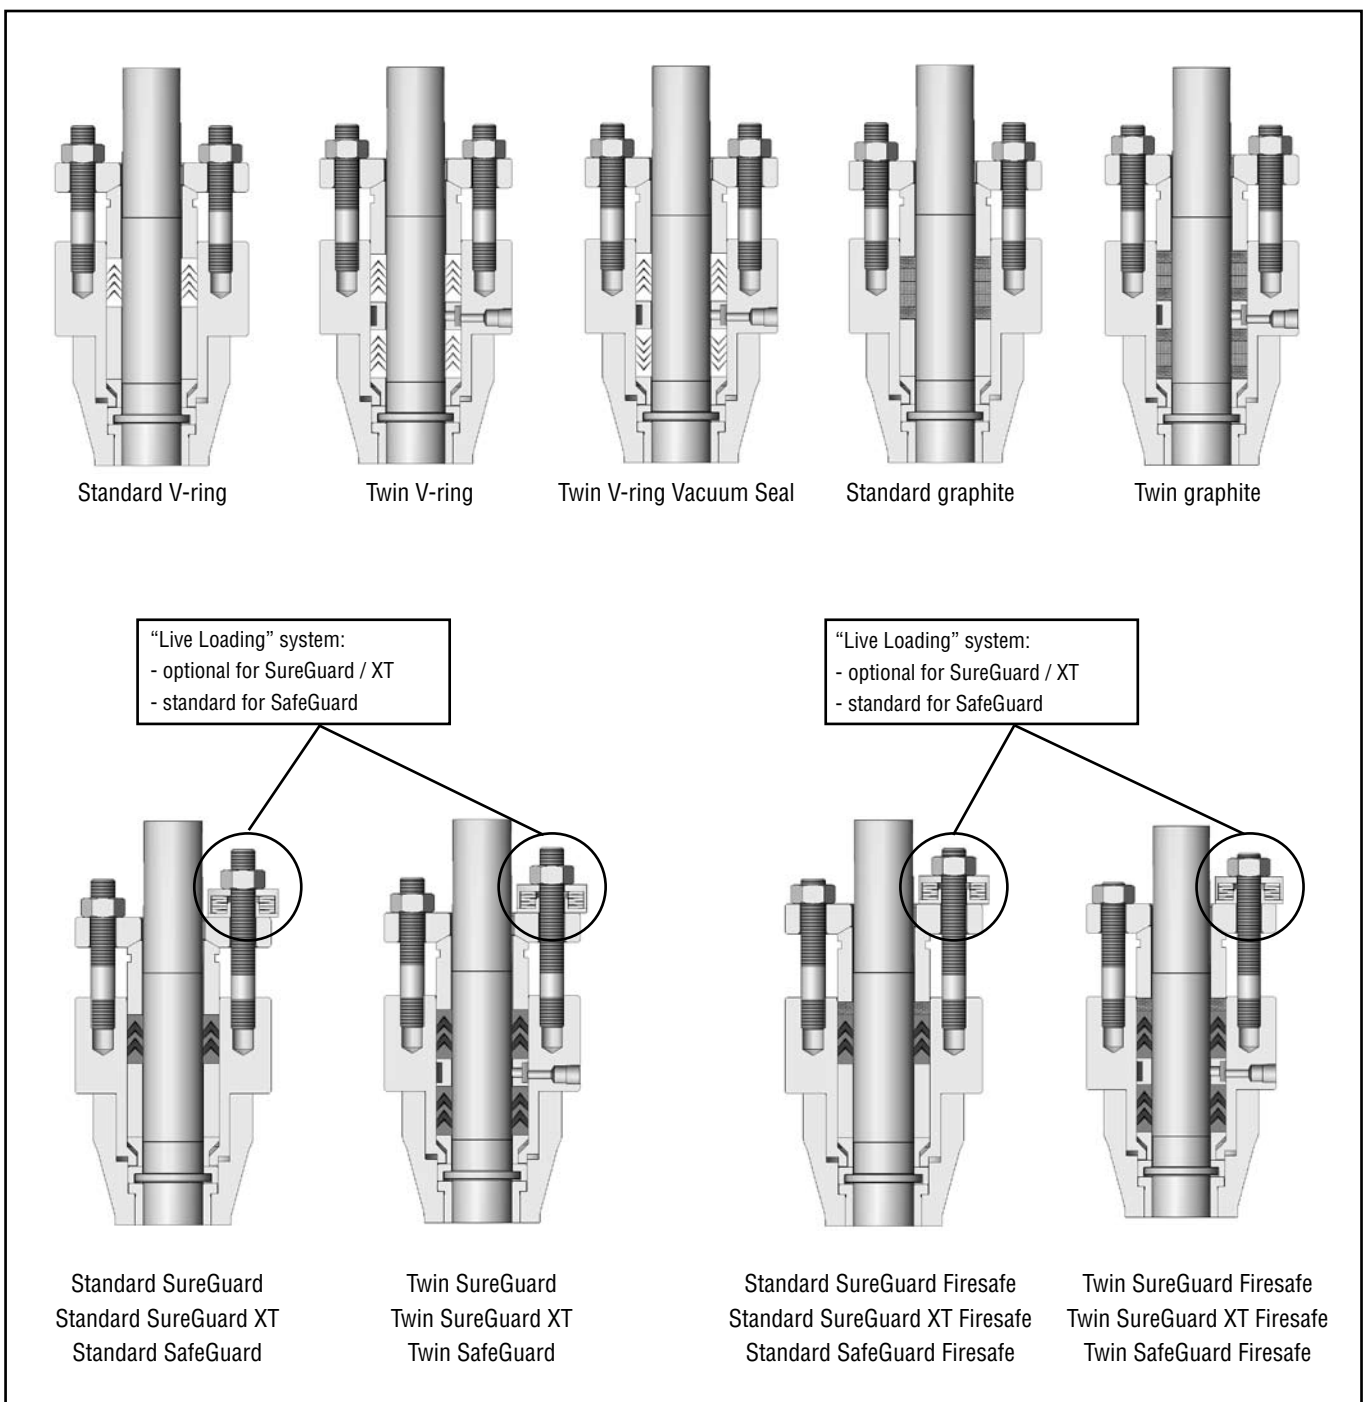

Figure 3: Packing Configurations
- 6.11 Place the packing stop (item 99) into the bonnet, then install the packing spacer (item 93) and packing as shown in figure 3.